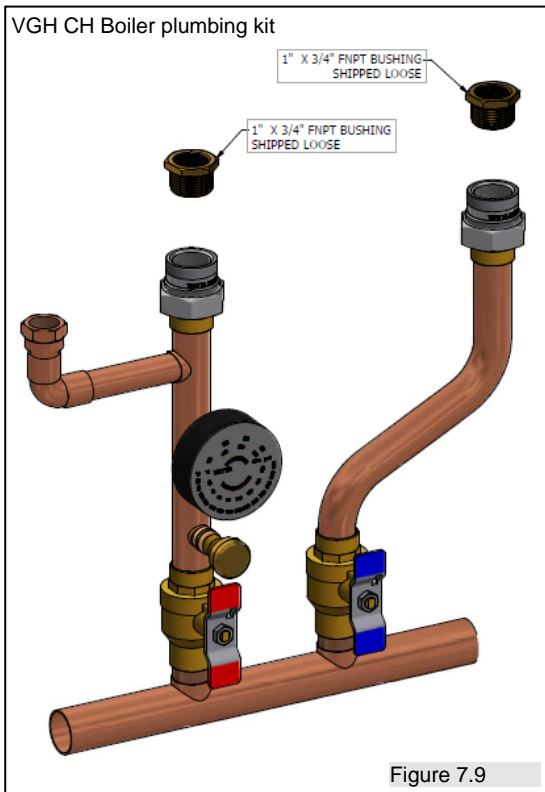

Figure 7.9
Slant/Fin has available a boiler plumbing kit that is highly recommended to be used on all installations. The boiler plumbing kit (for part number see accessoires list §5.1) includes all of the items in figure 7.9 (CH) or 7.10 (CO). The Slant/Fin plumbing kit has a minimal pressure drop equivalent to less than 1 foot of head.